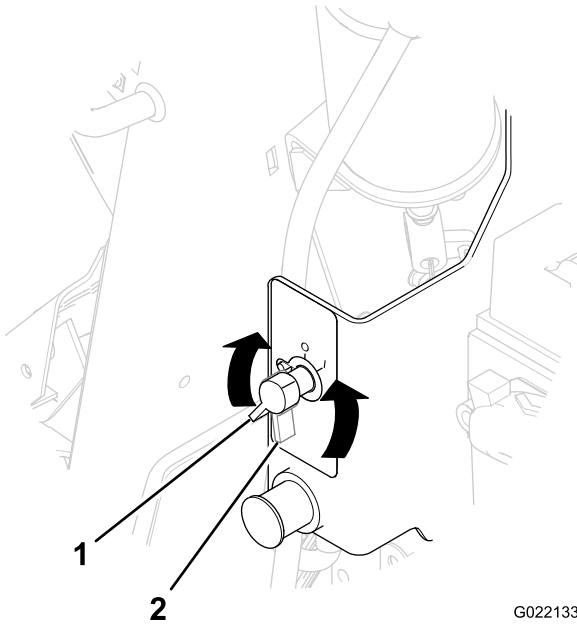

Figure 61
- Rotate the battery-disconnect switch counterclockwise to the Off position (Figure 61).